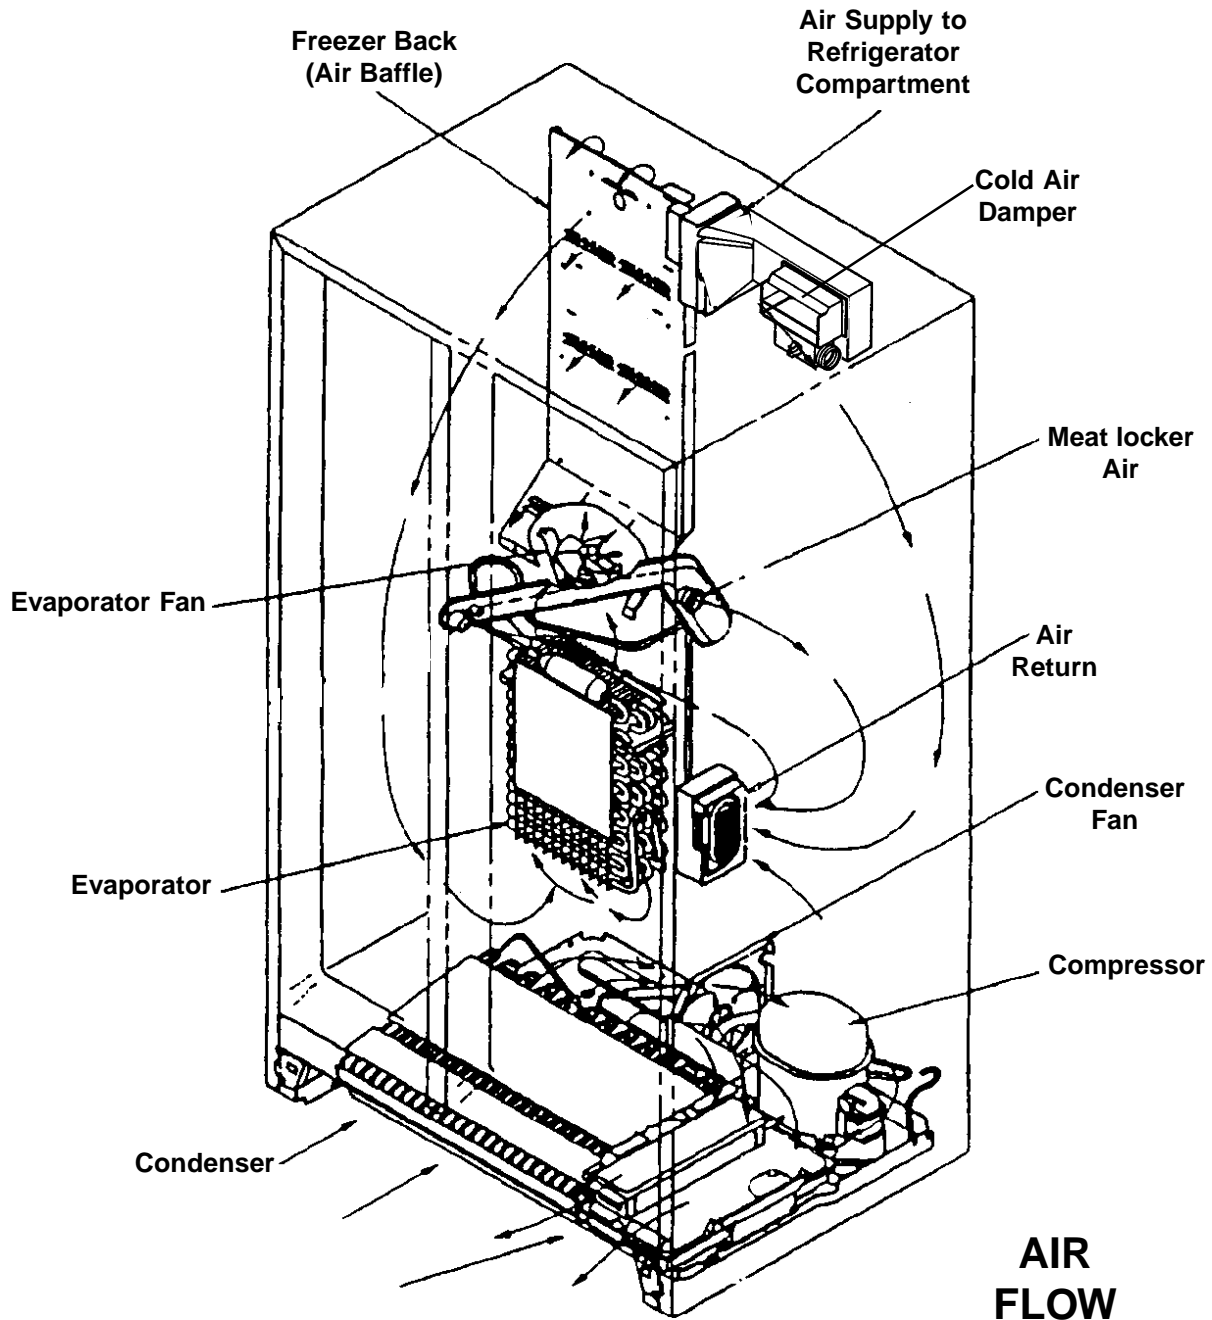

Fig. 11
2. Refrigerator temperature is regulated by an air damper control. This control governs the amount of refrigerated air entering the refrigerator compartment. (Fig. 11) The control should be set to maintain 28°F to 40°F fresh food temperature.